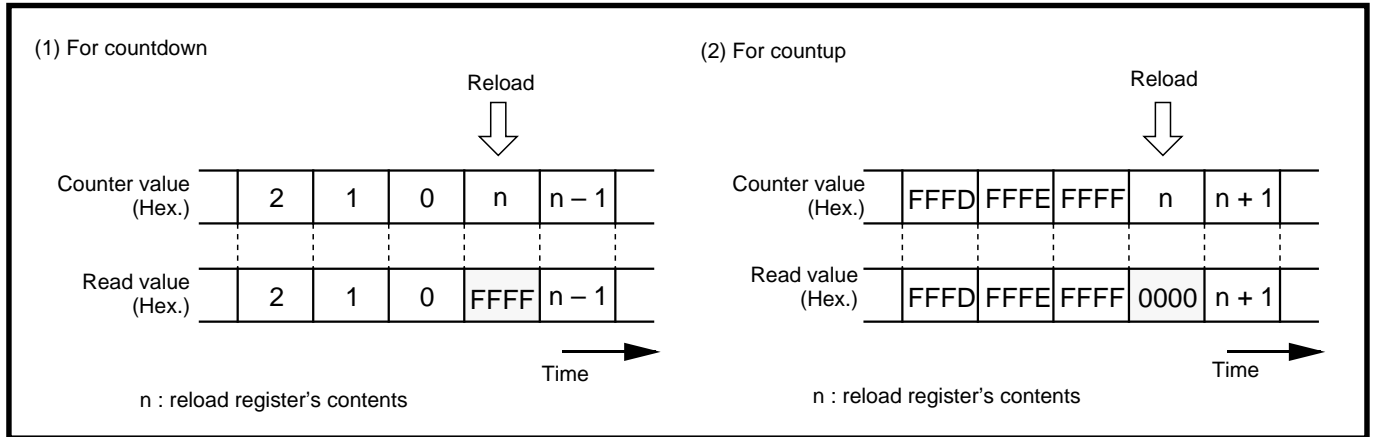

Fig. 7.4.9 Reading timer Ai register
1. While counting is in progress, by reading the timer Ai (i = 0 to 9) register, the counter value can be read out at any timing. However, if the timer Ai register is read at the reload timing shown in Figure 7.4.9, the value “FFFF₁₆” (at an underflow) or “0000₁₆” (at the overflow) is read out. If reading is performed in the period from when a value is set into the timer Ai register with the counter stopped until the counter starts counting, the set value is correctly read out.